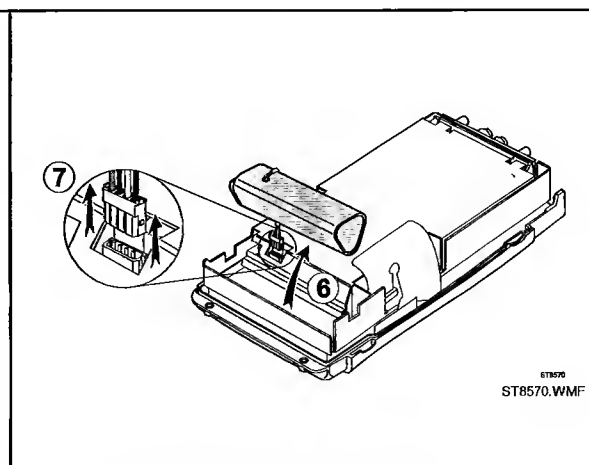

Figure 6-4. Removing the Battery Pack
6. Lift out the battery pack (Figure 6-4).